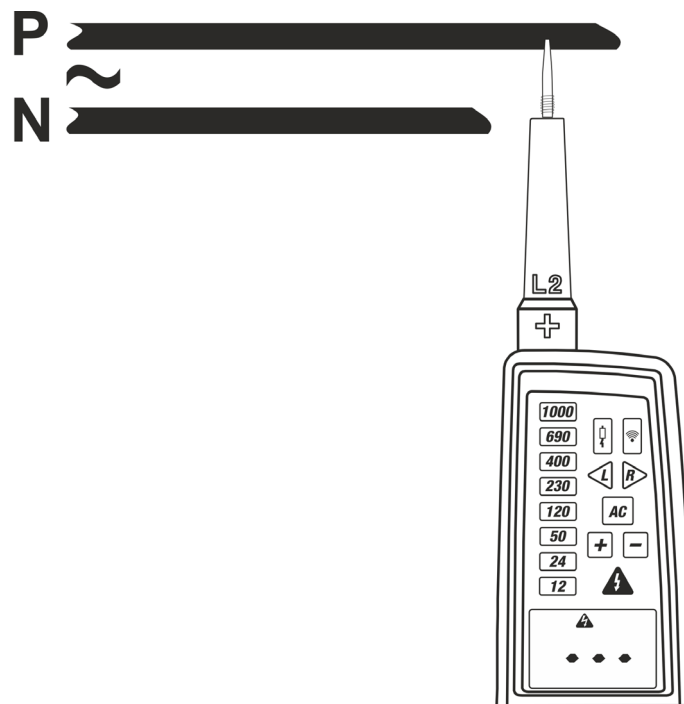

Fig. 7: 1-wire AC Voltage detection (polarity)
2. Connect the **L2** probes to the object under test (see Fig. 7). The measurement is performed **only with contact of probe directly on the metal part of conductor**